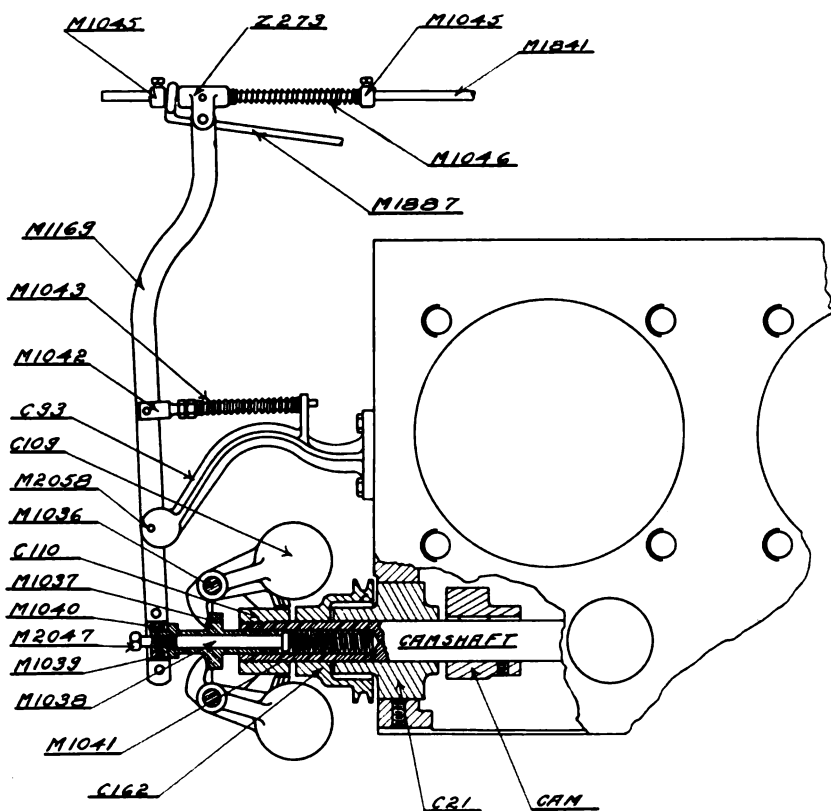

Fig. 16. Governor.
- 144** — Fig. 16 shows a sectional view of the governor, together with its attached levers, springs and brackets.
opened by spring M1045 on throttle rod M1841 when rod M1887 is brought in towards Z273, as the rod M1887 only slides over M1841 by a loop and is not attached). On rod M1887 and not shown on Fig. 16 is a set collar M1045: *adjust this collar so that the butterfly valve is wide open and its action is not interfered with.* This is the correct starting position for any governor adjustment.
The set collar M1045 to the right of Z273 in Fig. 16 is used to regulate the tension of the spring M1046 that is continually exerting pressure tending to open butterfly valve.